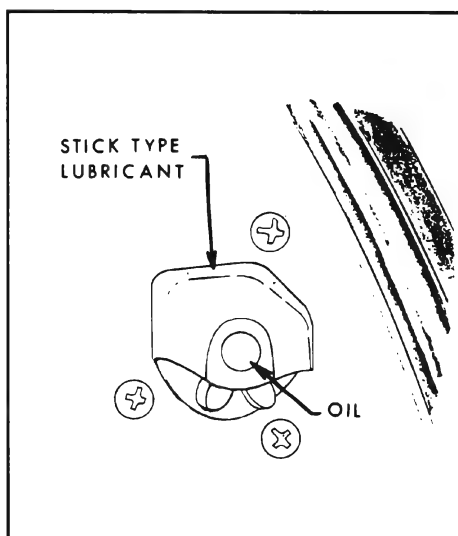

Figure 1-18—Door Lock Rotary Bolt and Housing
3. Door Lock Rotary Bolt and Housing. Wipe off dirt and apply a thin coat of stick-type lubricant and oil (Figure 1-18).